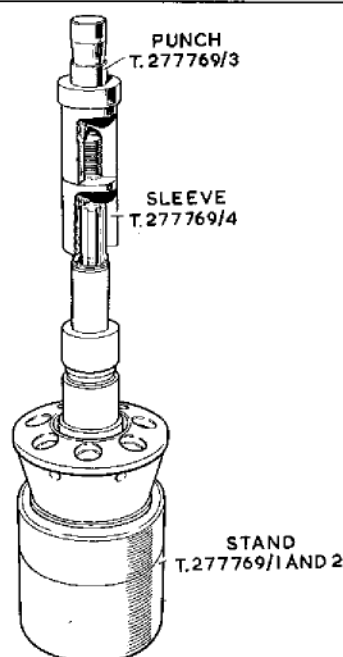

Fig. 1. Fitting the rotor quillshaft
4. Mount the rotor on the stand T 277769, fig. 1. Fit a sealing ring to the groove between the larger splines and insert the shaft into the rotor bore. Place the assembly on a suitable hand press, locate the tool T 277769 over the quill and apply a load until the shaft is felt to 'bottom' in the rotor.